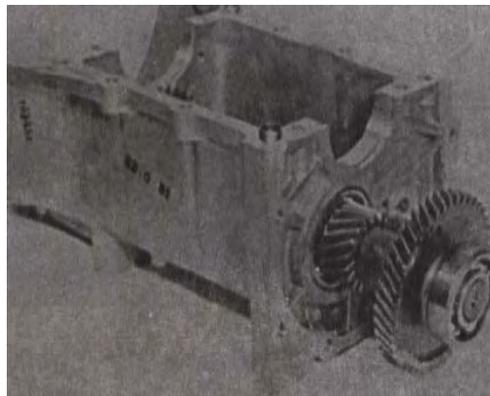

Fig 10-74
(3) Install counter shaft reverse gear and 5th gear onto counter shaft. And then drive counter shaft rear bearing onto it. (FIG.10-74)